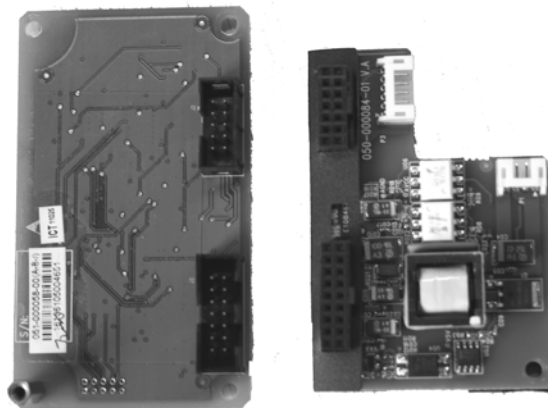

FIGURE 4-29 DPM SpO₂ board and isolated power supply.
2. Remove the SpO₂ board. (as shown in FIGURE 4-29)